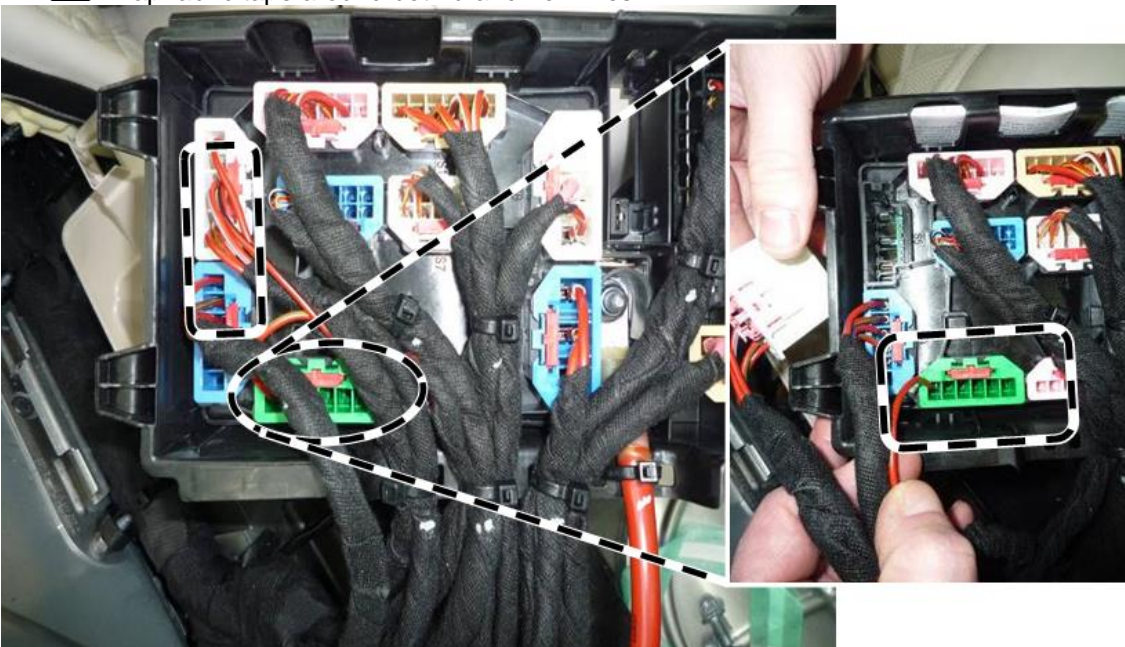

Figure 7
9. Connect plug S1 (**green**) and plug S5 (**white**) to the fuse and relay module (**Figure 7**).